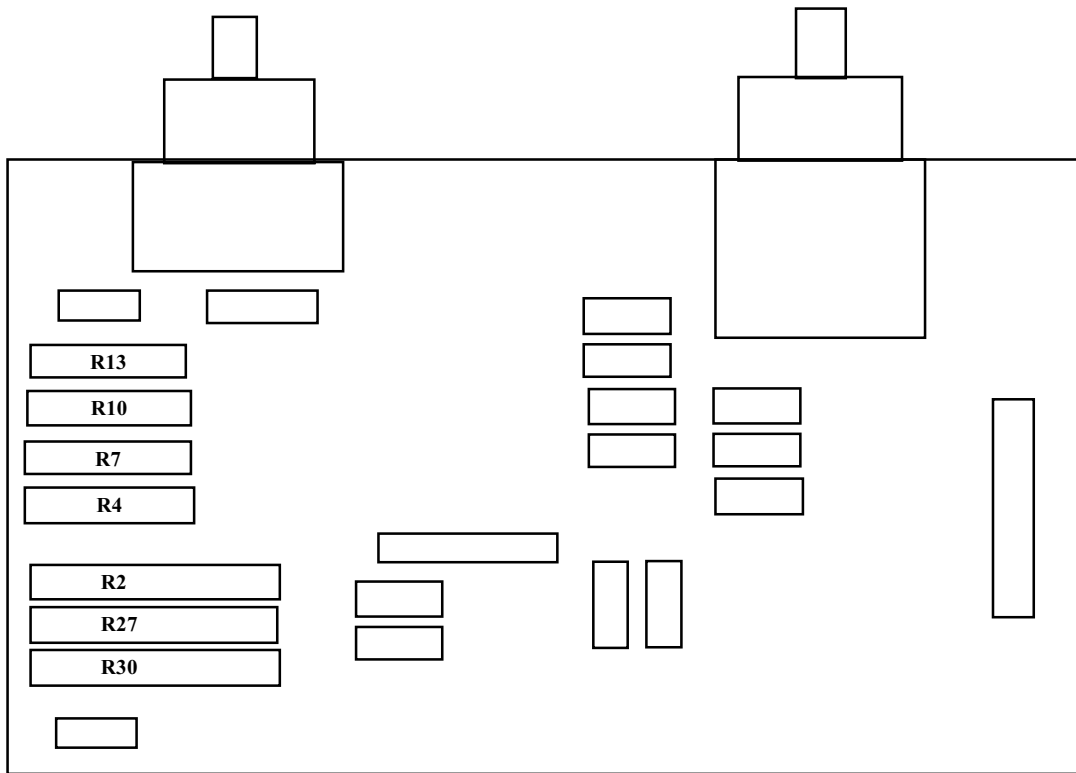

Figure 12. Resistance and installation board.
- (1) Adjust R30 (fig. 12) for an **INSULATION CHECK** meter indication of **0** (R).
- (2) Adjust R27 (fig. 12) for an **INSULATION RESISTANCE** meter indication of **0** (R).
(1) Connect multimeter to **RESISTANCE CHECK** meter terminals, observing polarity. Adjust resistance standard to 22  $\Omega$ . Adjust R13 (fig. 12) ccw. Record multimeter indication, disregarding polarity sign. Adjust R13 (fig. 12) cw. Record multimeter indication, disregarding polarity sign.
(2) Determine the mean value of indications recorded in (1) above. Adjust R2 (fig. 12) to this value, then disconnect multimeter.
(3) Set resistance standard to 22  $\Omega$  and adjust R13 (fig. 12) for a **0** indication on **RESISTANCE CHECK** meter (R).
(4) Set resistance standard to 15  $\Omega$  and adjust R10 for a **0** indication on **RESISTANCE CHECK** meter (R).
(5) Set resistance standard to 8  $\Omega$  and adjust R7 for a **0** indication on **RESISTANCE CHECK** meter (R).
(6) Set resistance standard to 4.21  $\Omega$  and adjust R4 for a **0** indication on **RESISTANCE CHECK** meter (R).